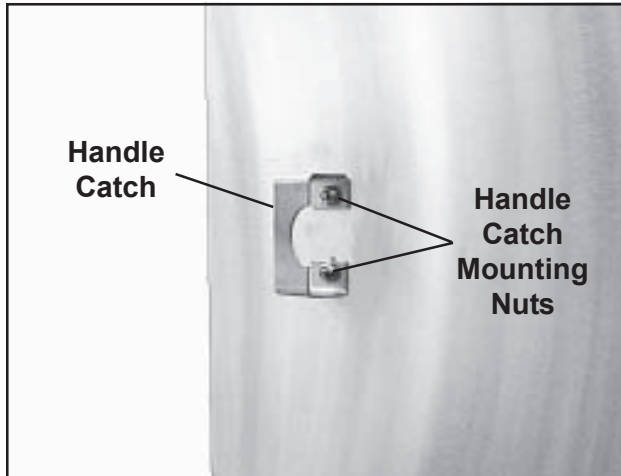

Figure 30. Handle Catch on Left Side of Case Cart
2. With a 3/8 in. wrench and a Phillips screwdriver, remove the two mounting screws/nuts on the handle catch (Figures 30 and 31), and lift off the catch.